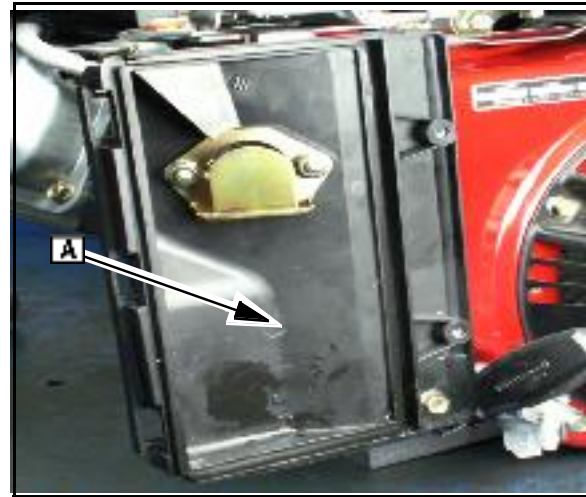

Fig. 19
12. Install air cleaner base ([A] Fig. 19).